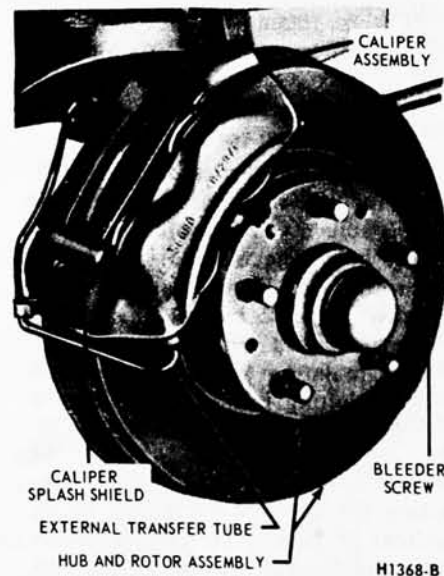

FIG. 1—Disc Brake Assembly
The disc brake is a fixed caliper, opposed piston, non-energized, ventilated disc type, actuated by a hydraulic system (Fig. 1). There is no
An independent foot-operated parking brake control (Fig. 5) actuates the rear wheel brake shoes through a cable linkage. The operating cable is routed from the parking brake control assembly to the equalizer lever which is attached to the equalizer assembly. The rear brake cables connect the equalizer assembly to the parking brake lever at each rear secondary shoe (Fig. 1, Part 2-1 and Fig. 18).
2. Remove the two bolts that attach the caliper splash shield, and remove the shield (Fig. 1).